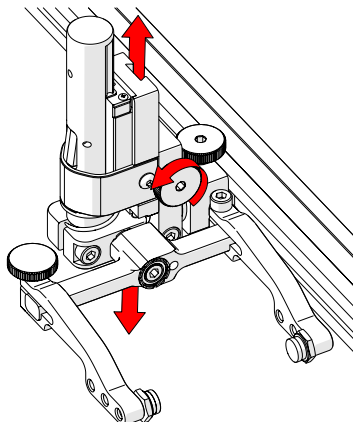

Fig. 78 - Vertical adjustment
2. Vertical adjustment knob allows the vertical probe holder height adjustment (Fig. 78).